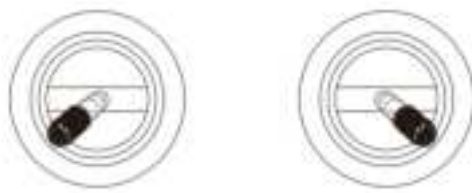

Figure 2-4 Lock
- Perform the operation shown in Figure 2-4 to lock.